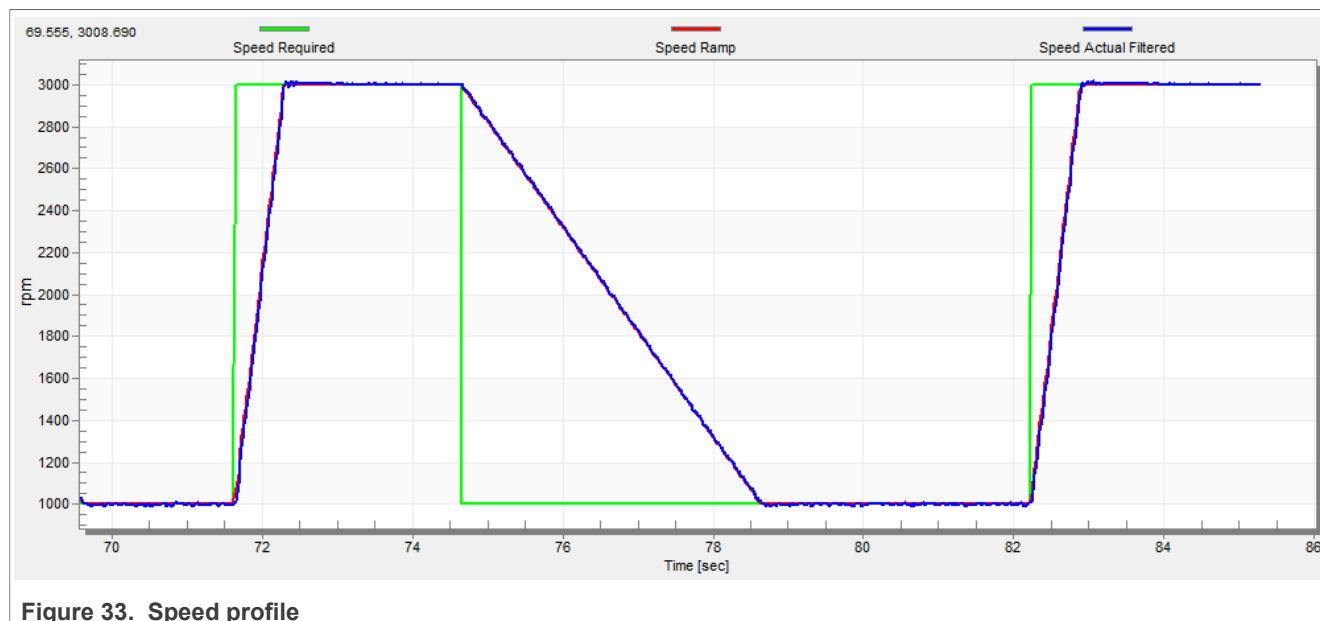

Figure 33. Speed profile
2. The increments are common for the scalar and speed control. The increment fields are in the "Speed loop" tab and accessible in both tuning modes. Clicking the "Update target" button applies the changes to the MCU. An example speed profile is shown in Figure 33. The ramp increment down is set to 500 rpm/sec and the increment up is set to 3000 rpm/sec.